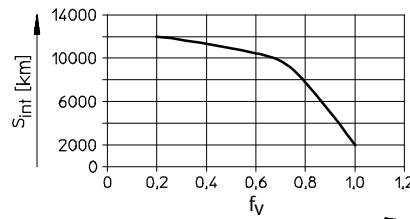

Fig. 12
- Halve the lubrication interval S_{int} (→ Fig. 12) if any of the following situations apply:
| Lubrication interval | (→ Fig. 12) | | As required ¹⁾ | |
- Calculate the load comparison factor f_v with the aid of the formula for combined loads (→ 12 Technical data) and determine the lubricating interval S_{int} from it (→ Fig. 12).
- Calculate the load comparison factor f_v with the aid of the formula for combined loads (→ Chapter 12 "Technical data") and determine the lubrication interval S_{int} from it (→ Fig. 12).